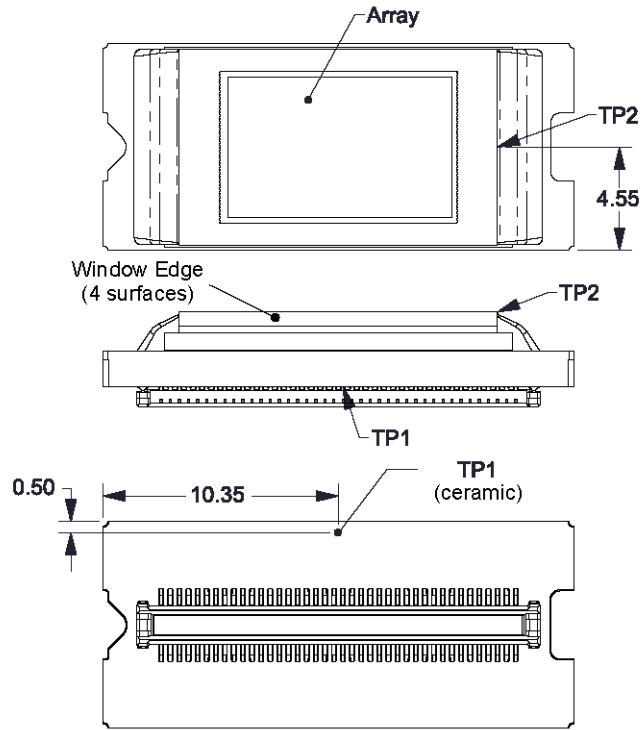
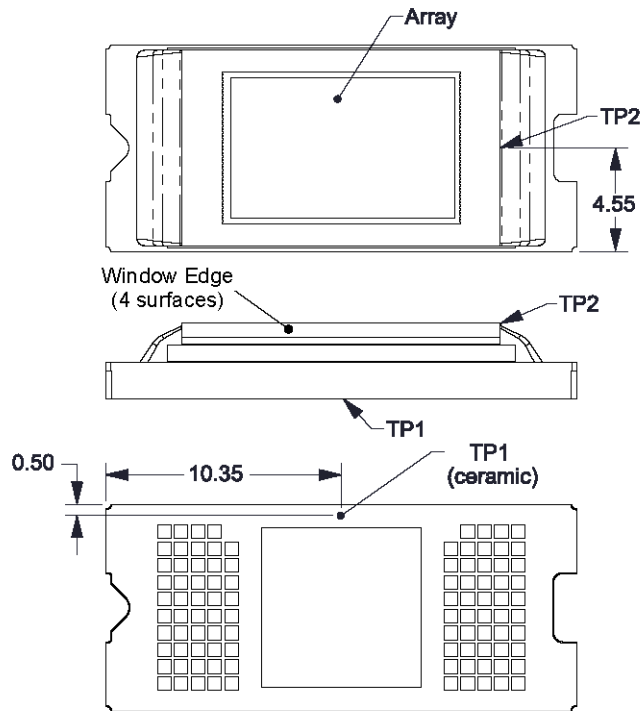

Figure 8-3. Thermal Test Point Location - FQE Package
Figure 8-4. Thermal Test Point Location - FQD Package
The DMD is designed to conduct the absorbed and dissipated heat back to the package where it can be removed by an appropriate thermal management system. The thermal management system must be capable of maintaining the package within the specified operational temperatures at the Thermal test point location, see Figure 8-3. The total heat load on the DMD is typically driven by the incident light absorbed by the active area; although other contributions can include light energy absorbed by the window aperture, electrical power dissipation of the array, and/or parasitic heating.
The temperature of the DMD case can be measured directly. For consistency, a thermal test point location TP1 representing the case temperature is defined as shown in Figure 8-3 and Figure 8-4.
- Thermal test point location (see Figure 8-3 or Figure 8-4)